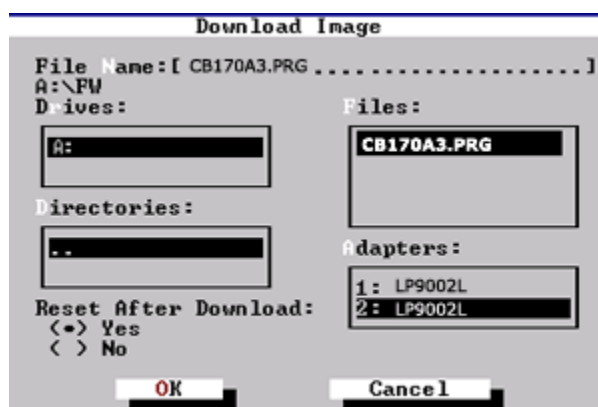

Figure 9: *Ip6dutil, Download Image Window*
4. Press **D**. The Download Image window appears. Figure 9 shows an example of one image that contains the files that are included in several firmware versions. In this case, you want the adapter to automatically reset after the download and update is complete. If downloading several files from the firmware version, you might not want the adapter to reset until all files are downloaded and updated.